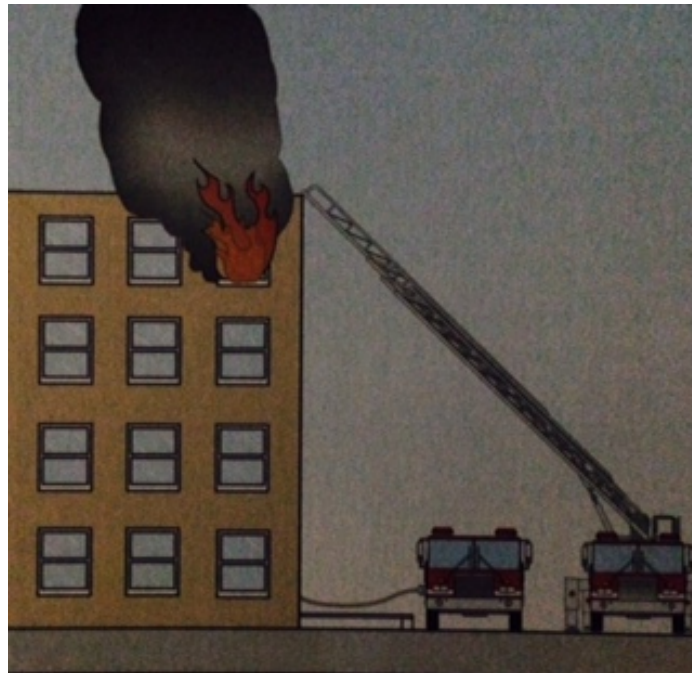

Figure 8 - Aerial apparatus positioned outside the pumper.
If a building is less than five (5) stories tall, the aerial apparatus may be positioned outside the pumpers (*Figure 8*).